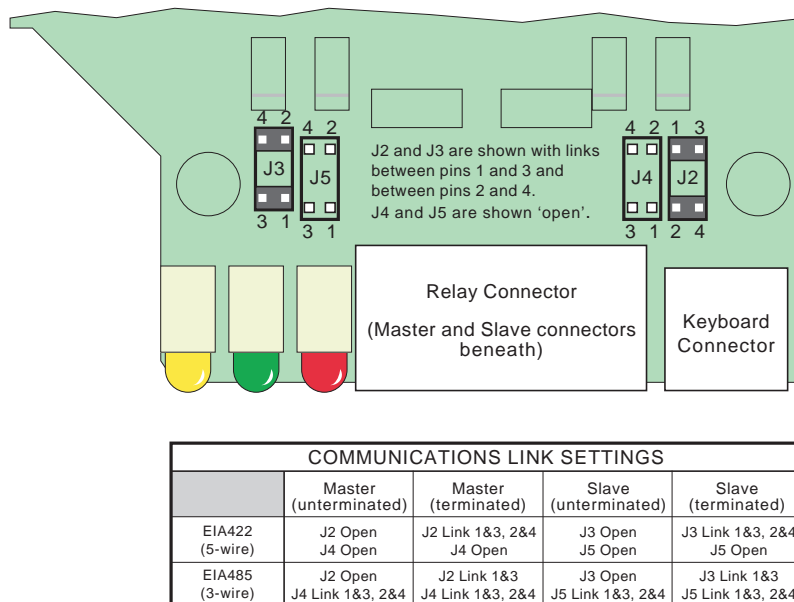

Figure 1.4.1 Location of Comms jumpers on the interconnect board
- 11 Determine visually, whether figure 1.4.1, or figure 1.4.2 (later instruments) applies.
Note: For units manufactured prior to mid June 2002, please follow the instructions given or the small frame unit in section 1.4.1, above. Figure 1.4.1 always applies for these units.